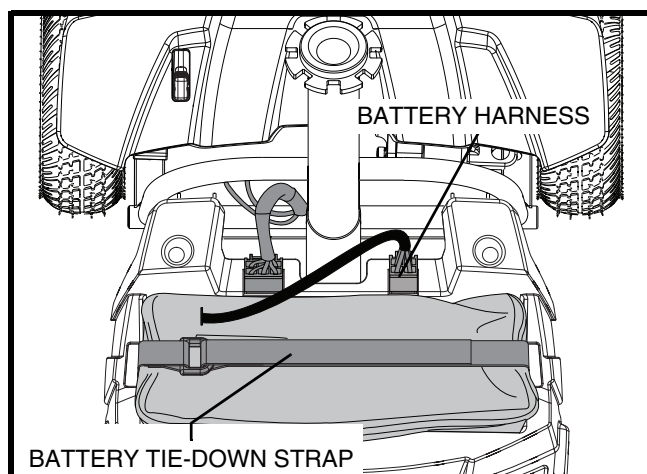

Figure 15. Battery Tie-down Strap
2. Disconnect the battery harnesses and tie-down strap then remove the battery pack from the Travel Scooter. See figure 15.